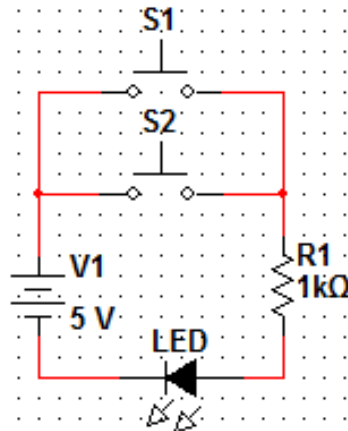
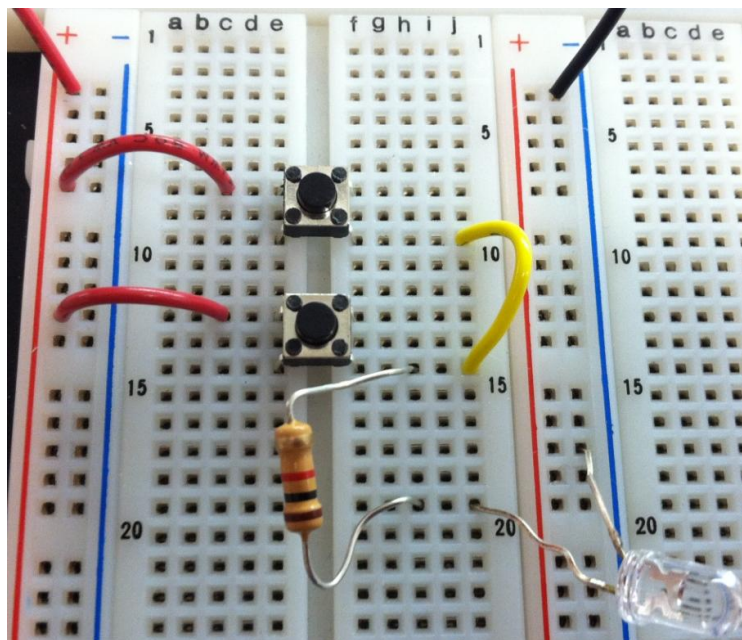

Figure 8: Schematic of OR gate implemented with pushbuttons
Figure 9: Implementation of OR gate with pushbuttons
- Turn the output of the power supply off and build the circuit represented in Figure 8. Use Figure 9 as a reference.